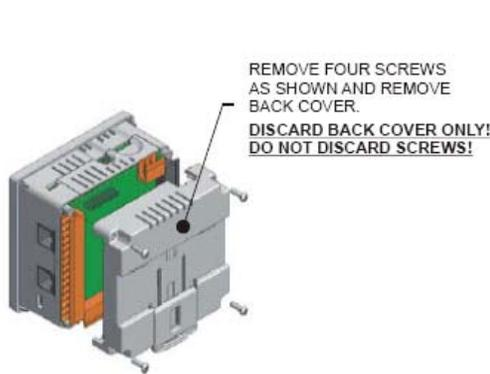

Figure 1 - Removing Back Cover of the XLE
2. Remove the four screws on the back of the XLe/XLt/XL6 unit and remove the back cover. The back cover will be replaced with the extended back cover that ships with the communication add-on. Screws are re-used (Figure 1).